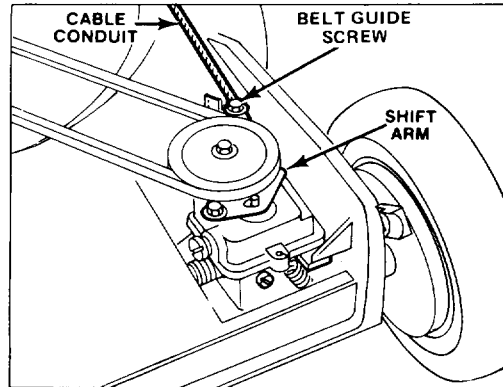

Figure 19
3. ADJUSTMENT (Fig. 19) — Loosen belt guide screw until cable conduit slides. Move handle-mounted wheel drive control to DIS-ENGAGE detent. Move shift arm toward clamp screw and hold in place. Pull cable conduit to remove slack and tighten guide screw.